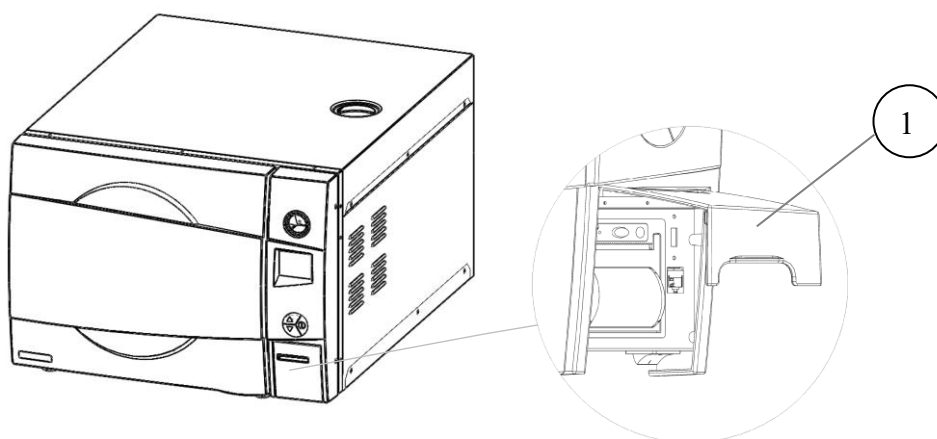

Fig. 2
1. Open the printer's cover door (1) by pulling it up (see Fig. 2).
6. Close the printer's cover door (1) by pulling it down (see Fig. 2), with the tip end of the paper emerging from the slot.